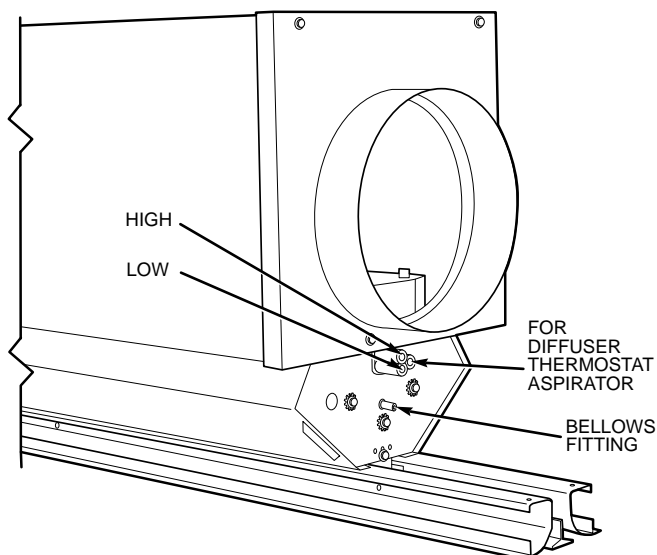

Fig. 4 — Typical 37HS Air Terminal Before Installation of Controls
2. Remove cap from bellows fitting (see Fig. 4) and install $1\frac{1}{16}$ -in. piece of $\frac{1}{4}$ -in. OD pneumatic tubing onto the bellows fitting (push on full length of fitting).
2. Remove cap from bellows fitting and install $\frac{1}{16}$ -in. long piece of $\frac{1}{4}$ -in. OD pneumatic adapter tubing onto the bellows fitting (push on full length of fitting). See Fig. 4.